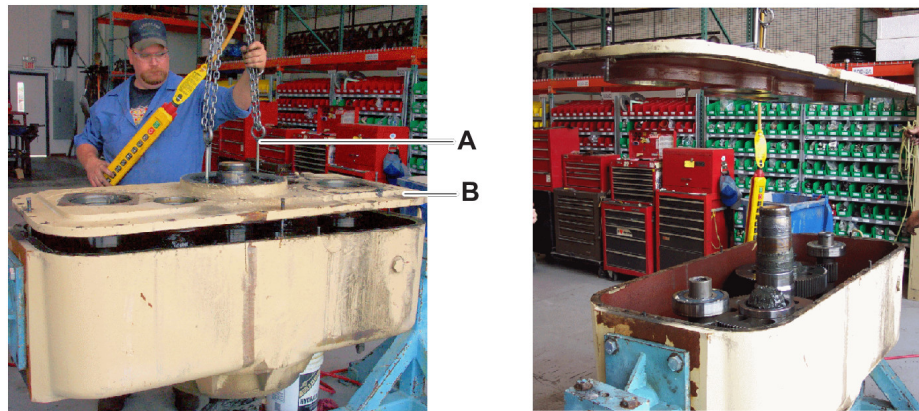

Figure 16
17. Insert lifting eyes (Figure 16, item A), attach them to the hoist with chains, and remove the cover (item B). Remove the oil seal from the cover. Using the same jacking bolts placed in threaded holes provided in housing cover below the upper spindle bearing cup, slowly tighten the jacking bolts alternately to push the bearing cup from the cover.